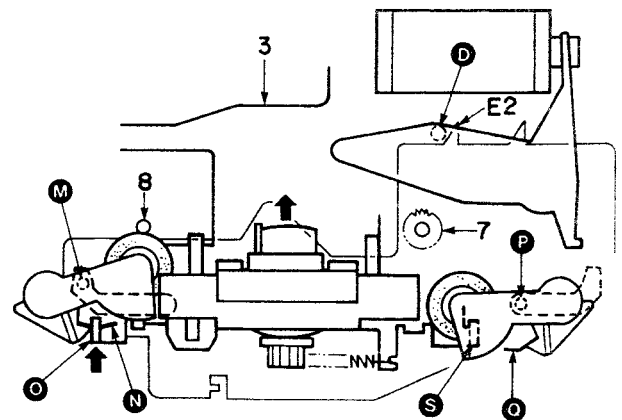

Fig. 14 Perspective view from the front
2-12) When the SUB-CHASSIS comes to the top, the spring (N) of the pinch roller (L) does not contact the SUB-CHASSIS edge (S) because the SLIDER is fixed in position of Fig. 14 by the pin (D) of the FD ARM, and the pinch roller (R) is not pressed against the capstan because the boss (P) is held by the groove of the SLIDER.